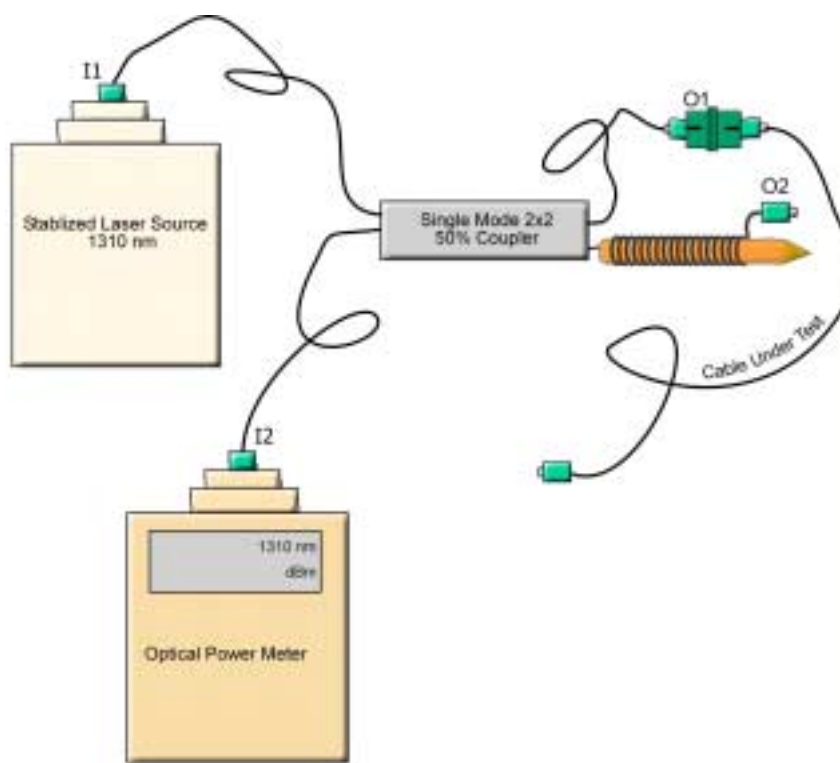

Figure 5-5. Test Procedure Connections
6. Connect the laser to port **I1** of the coupler as shown in Figure 5-5.
7. Connect the Power Meter to port I2 of the coupler as shown in Figure 5-5.